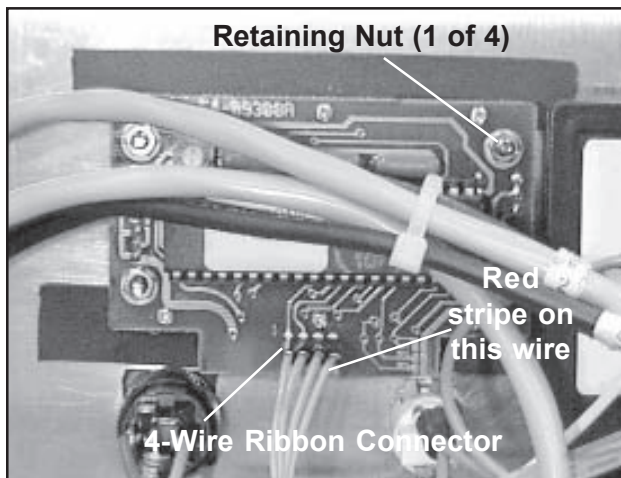

Figure 117. Inside View of Digital Display Assembly
4. Pull the 4-wire ribbon connector off the rear of the display (Figure 117).